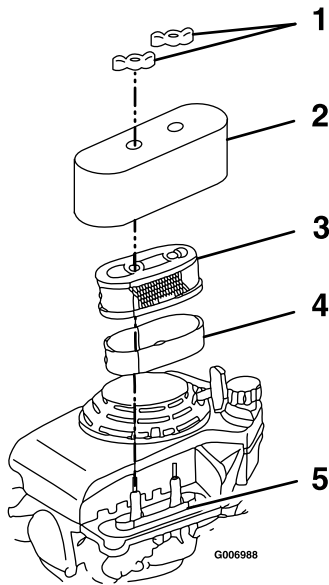

Figure 29
3. Remove the two wing nuts that secure the cover (Figure 29).